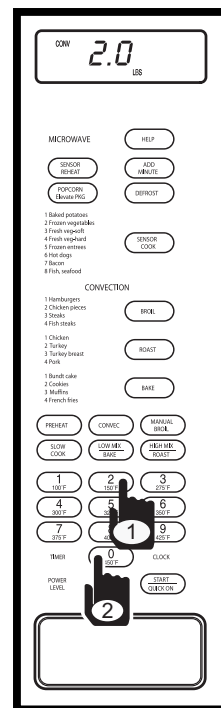

Figure 3-96.
3. Press the number 2 key and number 0 key, “2.0 - NO FOOD - IN OVEN - FOR - MEDIUM - PRESS - START - OR - FOR - DONE - LESS - OPTIONS - PRESS - POWER - LEVEL” will flash on the display. (See Figure 3-96)